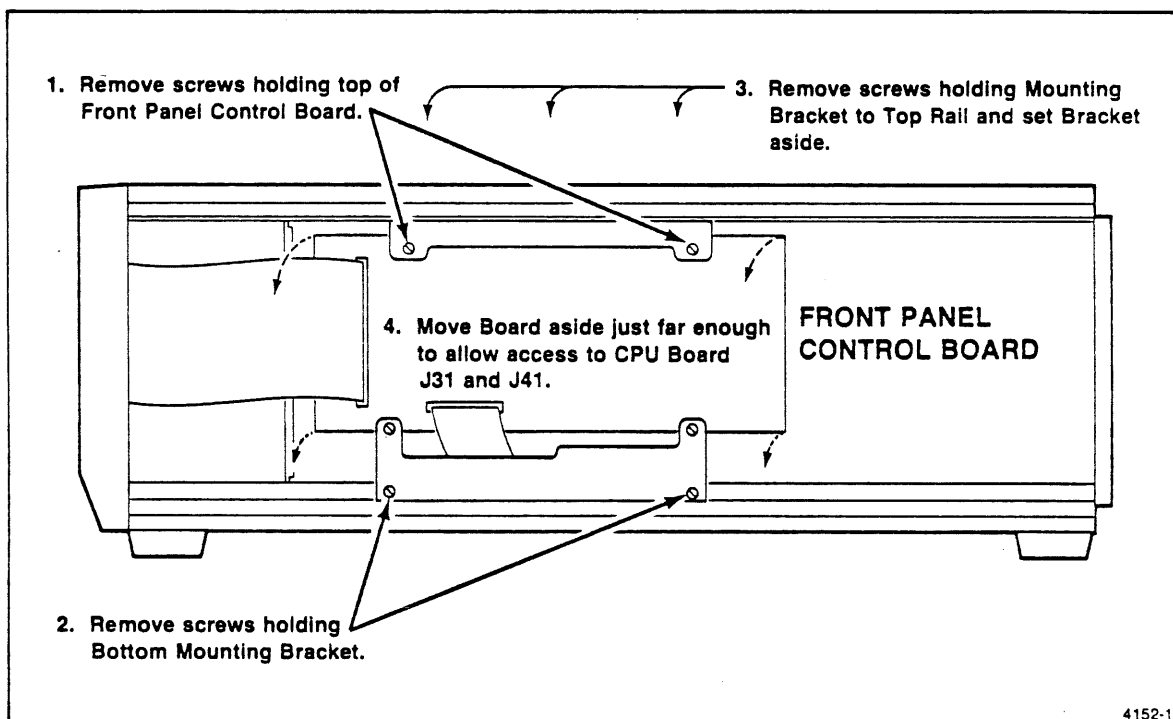

Figure 2-1. Gaining Access to the CPU Board.
Figures 2-1 and 2-2 show how to connect the test fixture components to the 4041 to be tested. In connecting up these components, proceed as follows:
3. Referring to Figure 2-1, dismount the Front Panel Control Board, set its top mounting bracket aside, and move the board aside far enough to allow access to the CPU board.